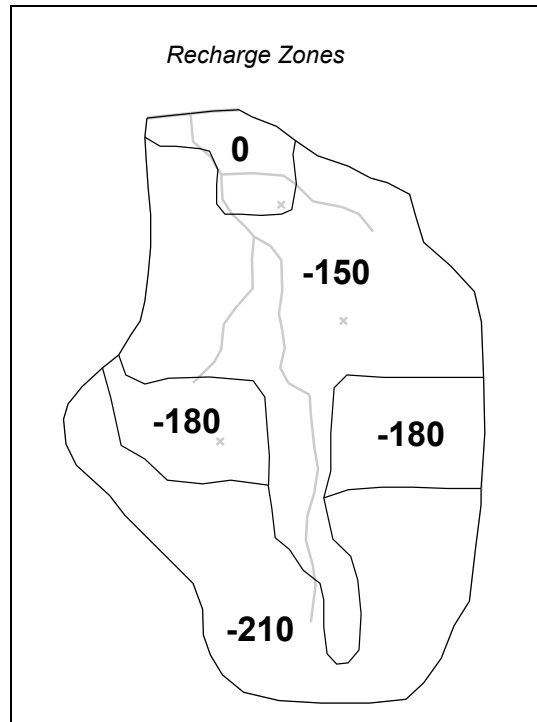

Figure 4 Recharge zones and parameter key values
Next, it is necessary to set up the recharge zones. The recharge polygons are shown in Figure 4. The five polygons will be used to define four parameter zones. The polygon at the top end of the model is relatively small; it is isolated from the majority of the observation wells, and it is down gradient from the wells. As a result, it is not a good candidate for parameter estimation. This tutorial will fix the recharge in this zone at zero. The key values will be associated with the other four polygons to define four parameter zones as shown.
2. Using the **Select Polygon**  tool, double-click on the top center polygon as shown in Figure 4 to open the *Attribute Table* dialog.
5. Repeat steps 2–4 for the remaining four recharge polygons, entering the appropriate values from Figure 4.